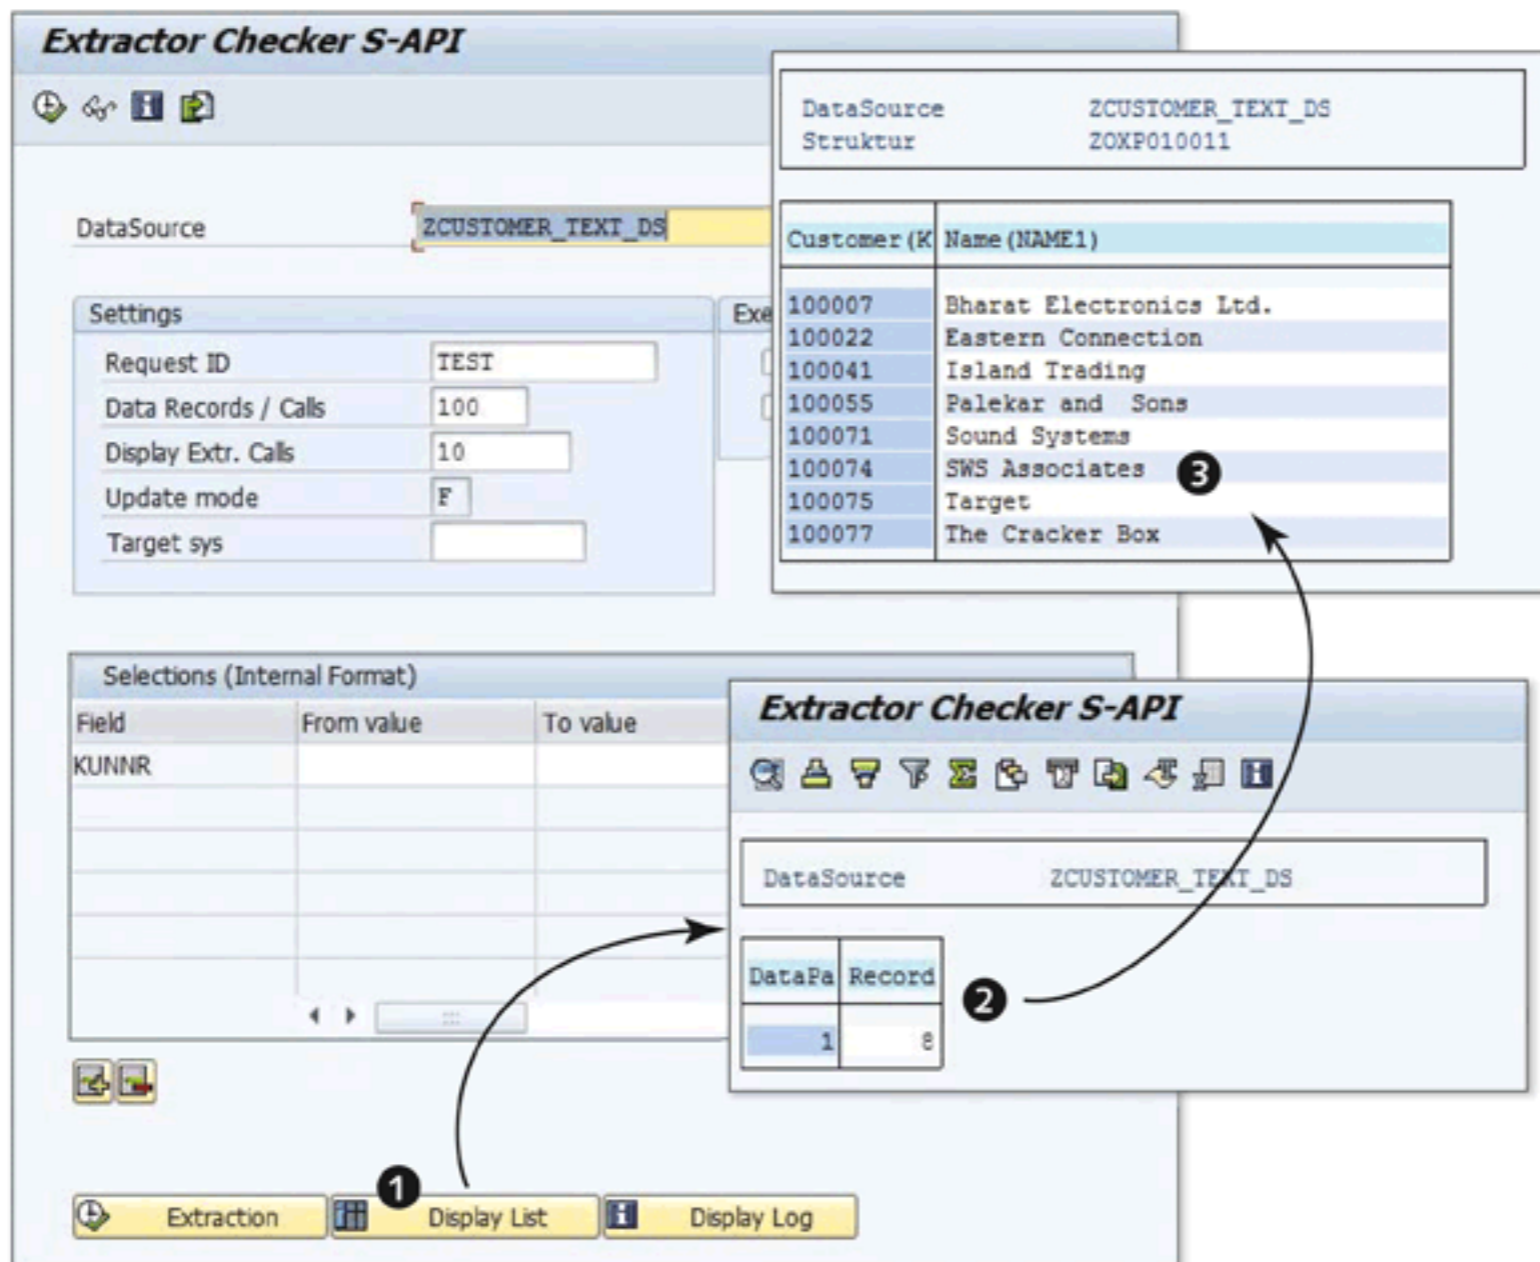

Figure 8.13 Result of Extractor Checker
Click on the EXTRACTION button (④) to simulate the execution of the DataSource. The system extracts the records and displays them in the pop-up box that appears with details on the number of records extracted (⑤). Now click on the CONTINUE icon, which results in the screen shown in Figure 8.13.
The DataSource has extracted the records based on the selection criteria. If you want to see the records extracted, click on the DISPLAY LIST button (① of Figure 8.13). This brings you the screen shown in ② of Figure 8.13, which shows the number of extracted records for each data package. Our example table, ZCUST_TEXT, on which the DataSource is defined, has only eight records extracted in a single data package. Double-click on the data package to view the details of the extracted records (③ of Figure 8.13).